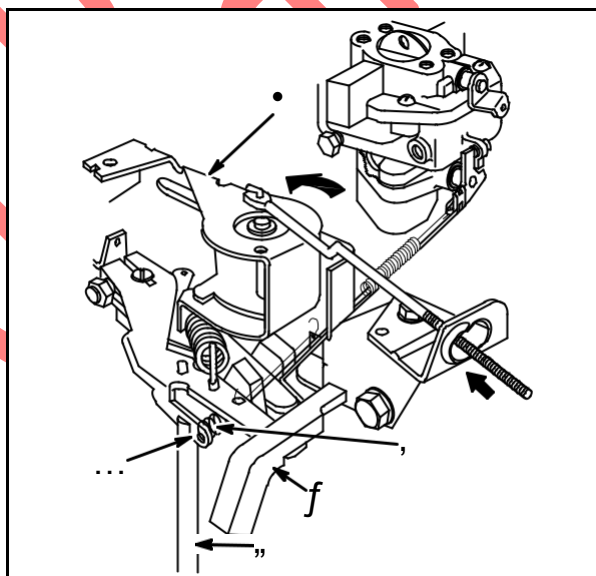

Fig. 39
Rotate governor control swivel (1) counterclock-wise to end of travel, **Fig. 39**.
Install Adjustment Gauge #19385 (3), with notch over end of governor lever and flat end of tool against governor control bracket as shown in **Fig. 39**.
Hold gauge in position and bend tab (5) with Tang Bender #19352 (4) so that all slack is removed from secondary governor spring (2) between its two anchor points, **Fig. 39**. **DO NOT STRETCH SPRING.**